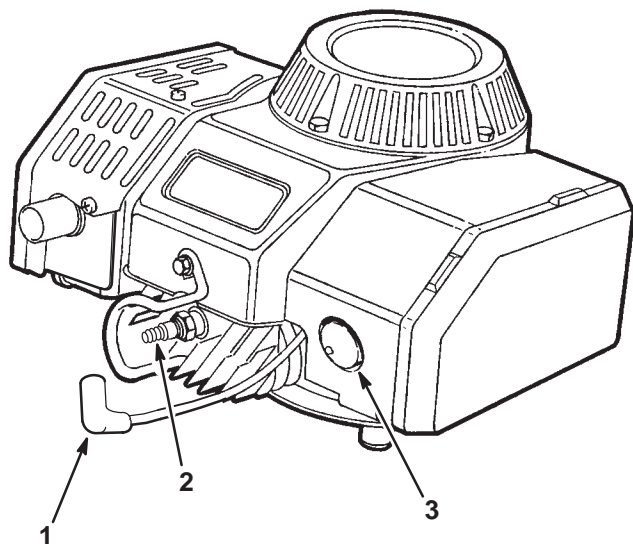

Figure 7
1. Pull the spark plug wire off of the spark plug (Fig. 7).
5. Reconnect the spark plug wire to the spark plug (Fig. 7).
1. Make sure the spark plug wire is connected to spark plug (Fig. 7).
2. Cover the hole in the center of the primer with your thumb and push once. An additional prime may be necessary in extremely cold temperatures (Fig. 7).
Stop the engine and pull the spark plug wire off of the spark plug (Fig. 7).